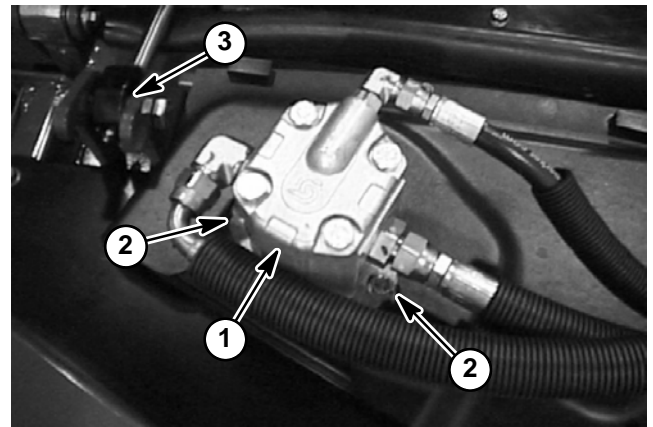
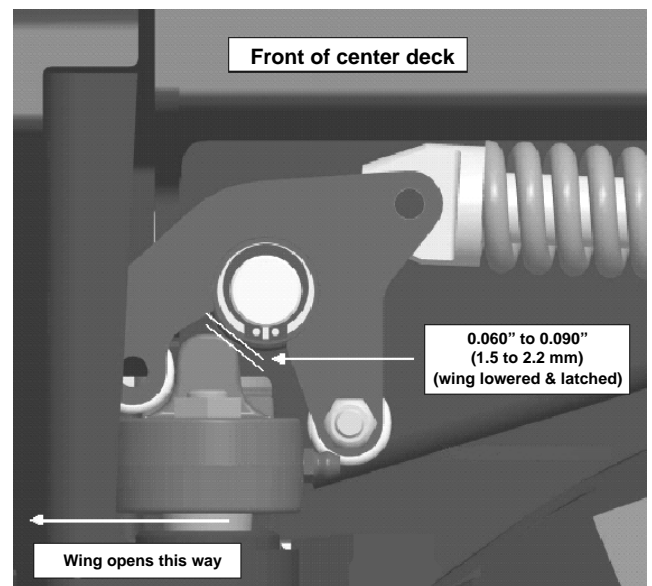

Figure 7
Figure 8
2. Fully raise wing deck, stop engine and remove key from the ignition switch. Remove three (3) washer head screws and shield strap that secure flex shield to wing deck. Lower wing deck.
4. Remove cap screw and lock nut that secure lift cylinder clevis to the wing deck (Fig. 7).
5. Remove switch shield (item 50) from center deck.
7. Remove cap screw (item 29) from pivot pin on upper end of both links. Cap screw on rear link also uses a flat washer (item 28).
- A. Place a hardened spacer (item 42) on each side of the front link. Use one or two thrust washers on rear side of assembly so that link is snug between deck brackets.
- B. Place a thrust washer (item 6) on each side of rear link.
7. Install cap screw (item 29) to pivot pin on both links. Cap screw on rear link uses a flat washer (item 28). Cap screw on front link also secures hose guide (item 38).
8. Position lift cylinder to the wing deck (Fig. 7). Secure cylinder with cap screw and lock nut.
10. Fully raise wing deck, stop engine and remove key from the ignition switch. Secure flex shield to wing deck with shield strap and three (3) washer head screws. Lower wing deck.
11. Lower wing deck and inspect deck latch assembly to insure that front link is locked when the wing deck is in the lowered position. There should be a gap from 0.060" to 0.090" (1.5 to 2.2 mm) between the arm latch actuator and the latch pivot (Fig. 8). If gap is incorrect, adjust link position by repositioning the location of the hardened spacers (item 42) and thrust washers (item 6). At a minimum, there must be a hardened spacer positioned to the rear of the front link.